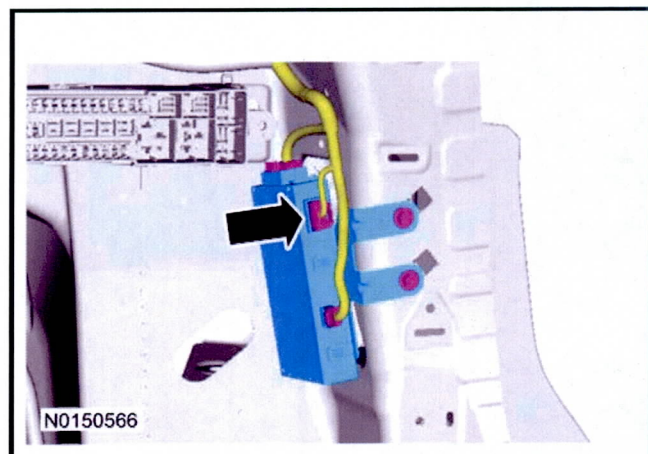

Figure 2 - Article 13-1-5
8. Disconnect the original equipment (OE) trailer tow harness electrical connector. Secure the electrical connector to the wire harness using a tie strap. (Figure 2)